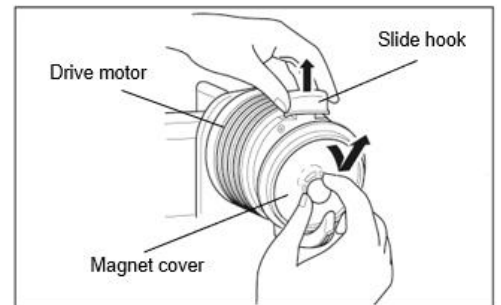

Figure 3
- ① Remove the magnet cover from the drive motor (Figure 3).